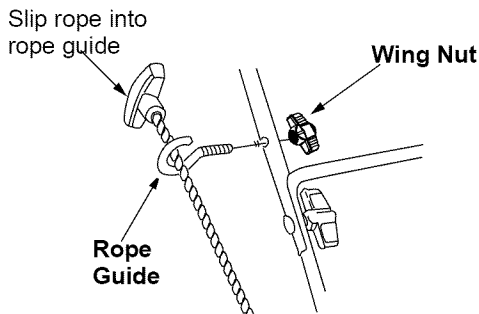

Figure 5
- Hold the blade control handle against the upper handle, and pull the starter rope out of the engine. Release the blade control handle. Slip the starter rope into the rope guide. Tighten the wing nut. See Figure 5.